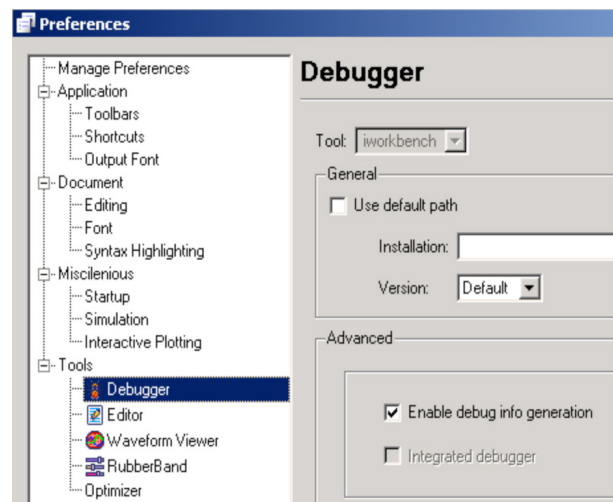

Figure 1. Set preference for VA-Debugger.
- 2) In a SmartSpice window, choose the pull-down menu Edit->Preferences and check the box “Enable debug info generation” as shown in Figure 1.